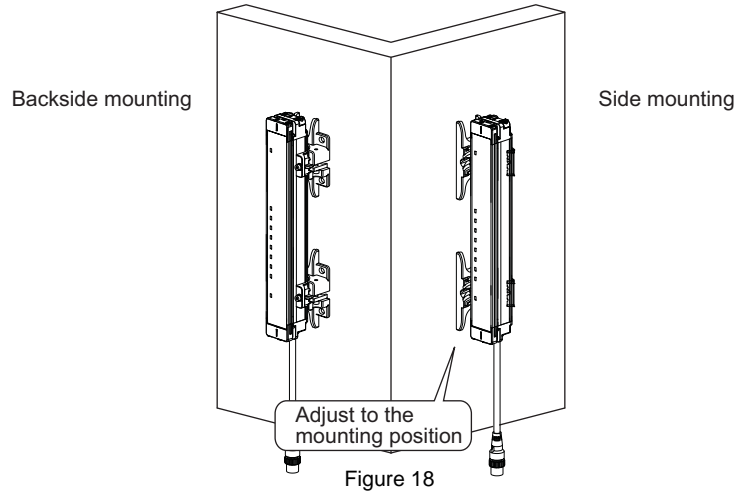

Figure 18
- Slide the Intermediate Brackets to the mounting position of the wall. (Figure 18)